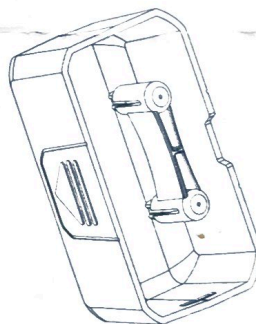

Figure 3
3. Take off the protection cover and probe cap. To avoid missing parts, insert the cap into the cover (see figure3)